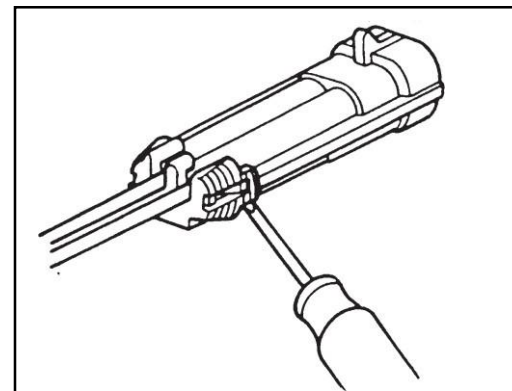

Figure 23
- To remove a secondary lock — Use a small screwdriver or pick to carefully lift the secondary lock over the locking tabs on either side of the connector and remove. (See Figure 23.)